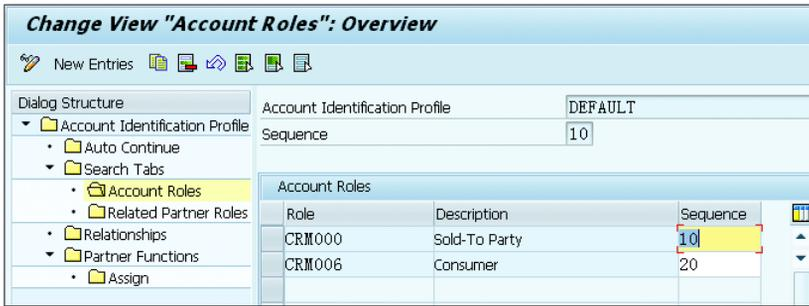

Figure 9.20 Account Roles
6. Figure 9.20 shows the ACCOUNT ROLES configuration, where you can add the account role; those accounts can be searched on the ACCOUNT IDENTIFICATION screen. The ship-to party isn't listed in Figure 9.20; if you try to search for ship-to, it won't return any account.